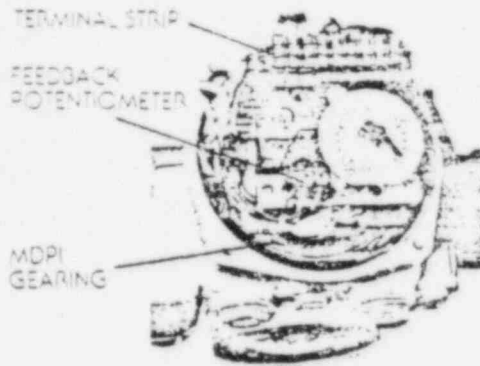

Figure 5—MDPI Gearing and Feedback Potentiometer
10. Run the unit to the 50% position. Turn off power. Read the resistance between comparator TB4-3 (feedback pot slider) and TB4-2. You should read  $500 \pm 10$  ohms. If you do not get this reading, loosen the set screw on the feedback potentiometer shaft. (See figure 5) Turn the shaft until you get the proper reading from TB4-3 to TB4-2. **\*\*RETIGHTEN THE SET SCREW\*\***